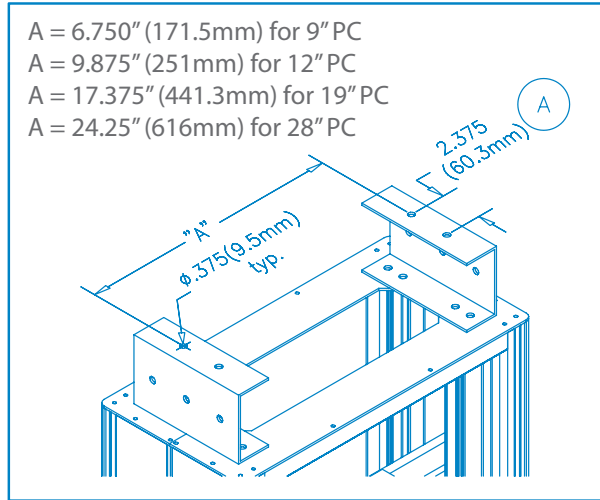
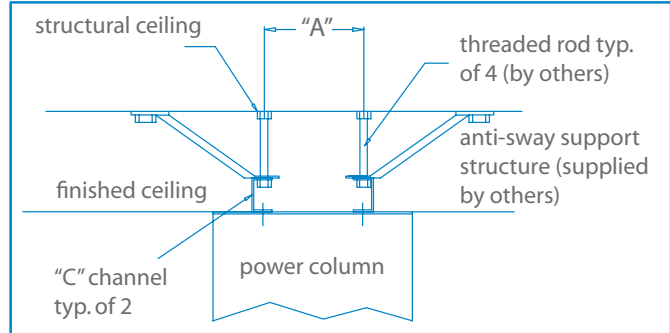

Figure 2
Figure 3
- 4 Structural bracket(s) and hardware to attach to Amico column are to be supplied and installed by others (see figure 3). Amico provides 2 "c" channels attached to the column to mate with this structural support (see figure 2).